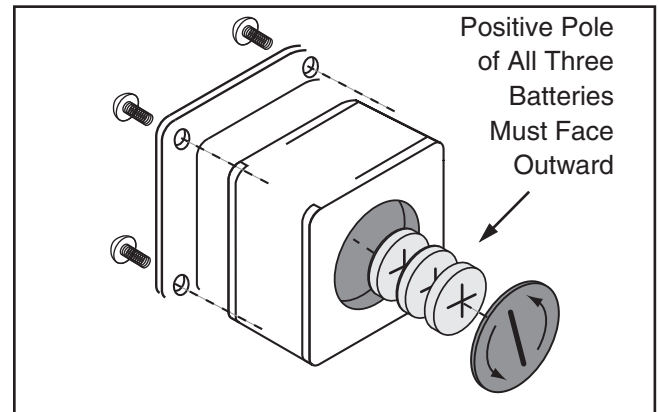

Figure 44. Digital protractor battery replacement.
2. Unthread the battery cover and replace the three batteries with the positive side facing out, as shown in **Figure 44**.